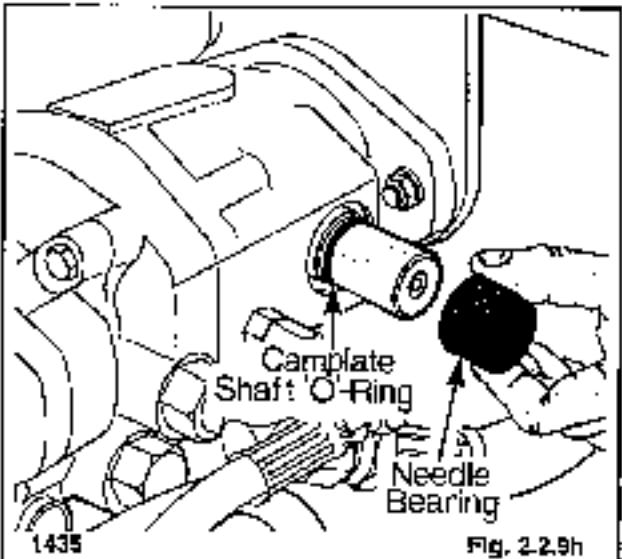

Fig. 2.2.9h
4. Remove the clamp bolt from the bottom of the pintle lever (fig. 2.2.9h).
10. Remove the needle bearing from the camplate shaft (fig. 2.2.9h).